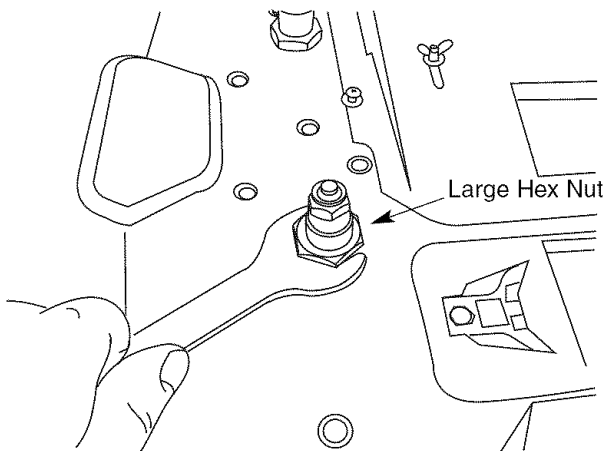

Figure 20 - Loosening the Feed Roller
Refer to Figures 20, 21, and 28, pages 11 and 18.
- Loosen the large hex nuts (See Figure 20 and Figure 28, Key No. 25) on both sides of the infeed roller using the wrench provided.